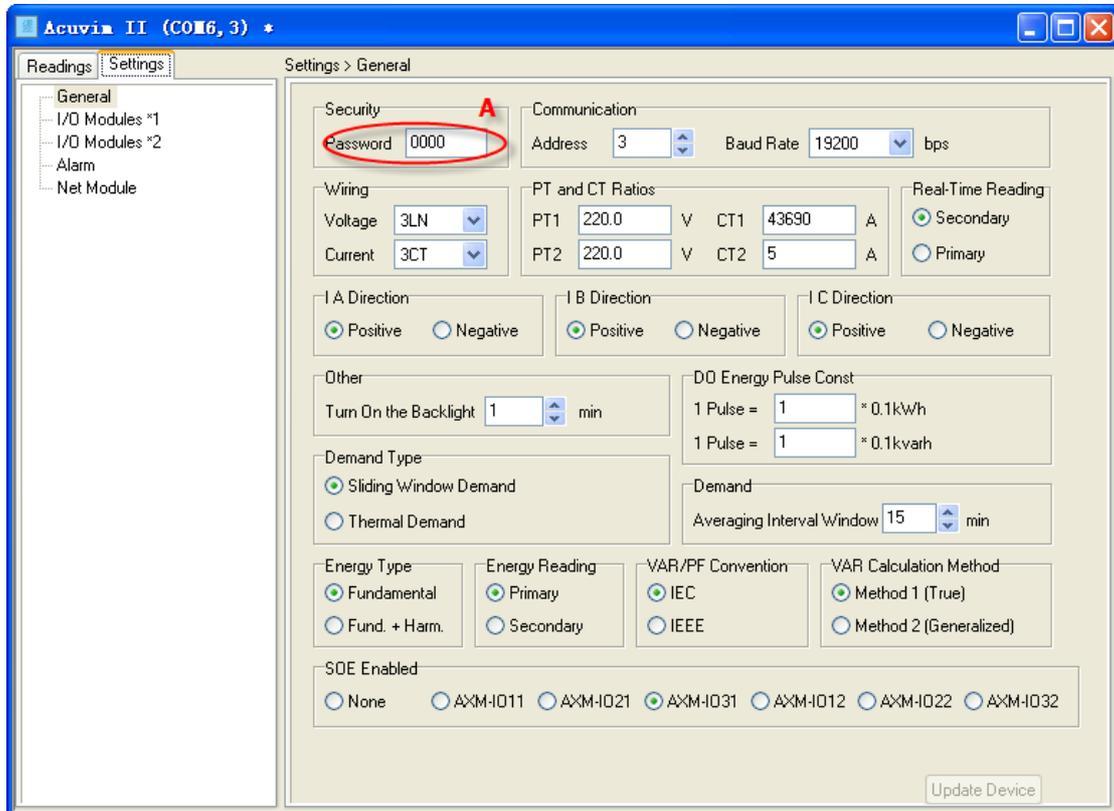

Figure 26:General settings (serial mode)
**A** — As shown in figure 26, **in the serial mode**, Password is visible and displays with decimal number.